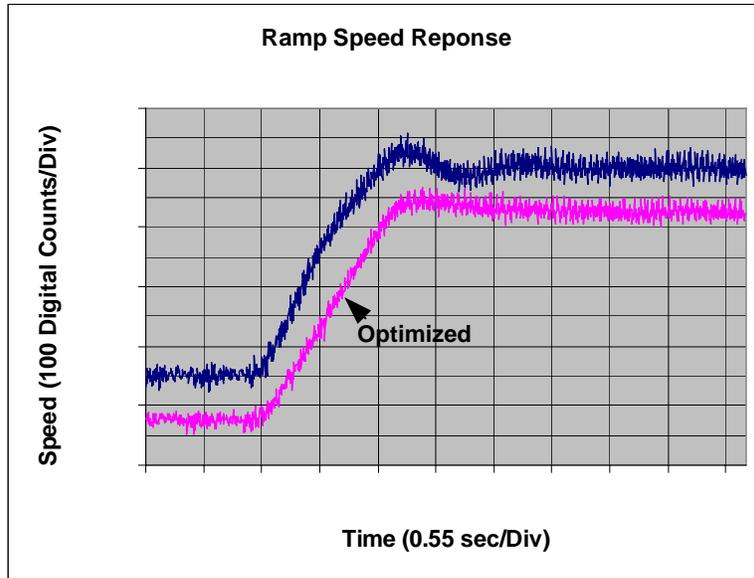

Figure 25—Comparison of Optimized and Non-optimized Speed Response
- 3) Figure 25 shows ramp speed response with non-optimized (KpSreg = Kp1, KxSreg = Kx1) and optimized (KpSreg = Kp3, KxSreg = Kx3) speed regulator gains. A tighter control response is exhibited due to the gain optimization.
4) It may be noticed that there is still slight overshoot on the optimized Ramp Speed response (Figure 25). Most applications can tolerate a slight overshoot (<10%).